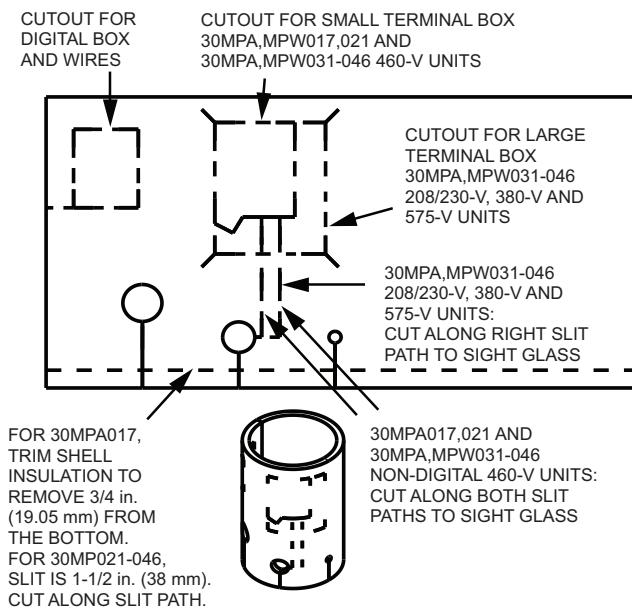

Fig. 4 — Cut Shell Insulation Before Applying
6. (30MP051-080 units: skip to Step 11.) Before applying the shell insulation piece, cut out area for the terminal box on the insulation piece. See Fig. 4.
8. For 30MPA, MPW31-046 208/230-v, 380-v, and 575-v units only: Cut along the right path for the conduit. Cut from the terminal box to the sight glass slit. See Fig. 4.
9. For units with compressor crankcase heaters installed: Make two cuts for the heater conduit, following both paths from terminal box to the sight glass slit. See Fig. 4.